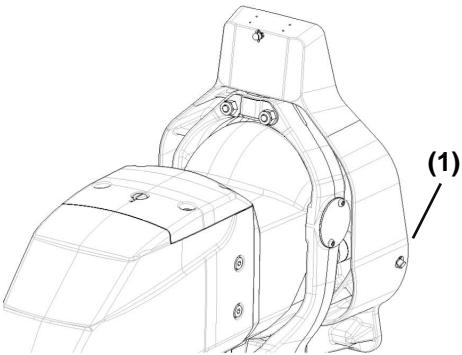

Figure 4
Apply approximately 8 to 10 pumps of grease to the unit bearing (gimbal housing) grease fitting (Figure 4, (1)) to lubricate the unit bearing (gimbal housing). Use a typical hand-operated grease gun to apply the grease.